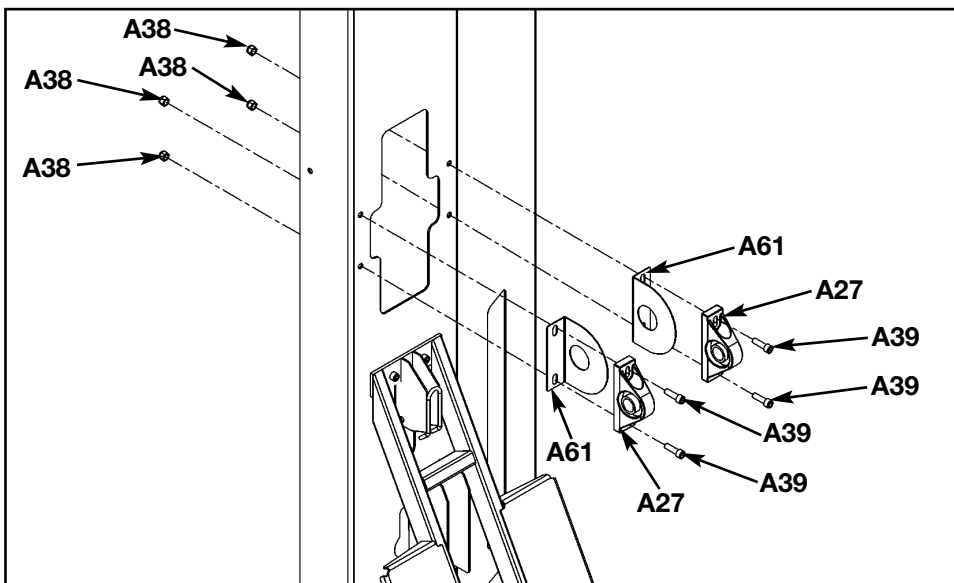

Figure 12
- D. Install pillow block bearings (#A27) and guards (#A61) as shown in Figure 12 using four SHCS .375-16 x 1.25 (#A39) and four nylon locknuts (#A38). Be sure set screws (on pillow blocks) are located on the outside. **NOTE:** Do not securely tighten screws (#A39) at this time.